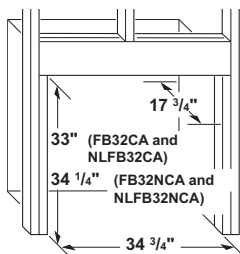
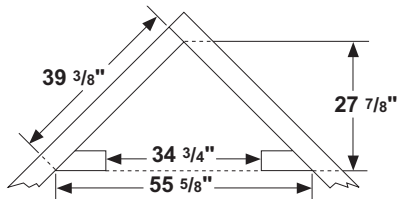

Figure 21 - Rough Opening for Installing in Wall
Figure 22 - Rough Opening for Installing in Corner
1. Frame in rough opening. Use dimensions shown in Figure 21 for the rough opening. If installing in a corner, use dimensions shown in Figure 22 for the rough opening. The height is 33" (FB32CA and NLFB32C) or 34 1/4" (FB32NCA and NLFB32NC), which is the same as the wall opening in Figure 21.